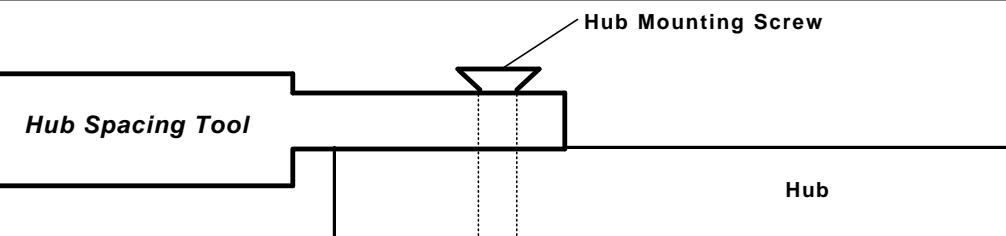

Figure 4-7. Hub spacing tool dimensions.
11. Fasten the hub spacing tool to the hub with any of the four hub mounting screws. Ensure the correct side of the tool faces and extends over the labyrinth seal plate (Figure 4-7.)